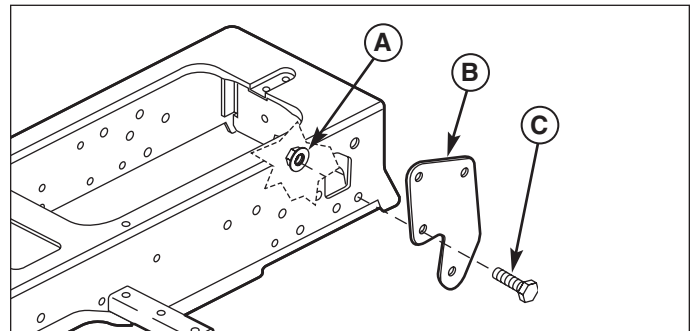

Figure 1. Install Side Brackets
1. Mount the side brackets (B, Figure 1) to both sides of the frame using the holes shown. Secure with one 3/8-16 x 1 cap screw (C) and 3/8-16 nylock nut (A) per side.